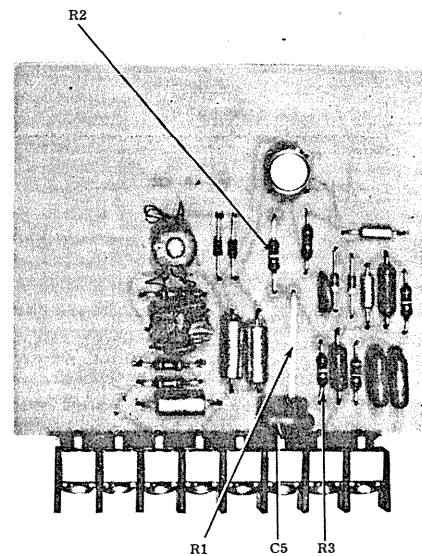

Figure 5. Component Location Upper Board Assembly
**RANGE MODIFICATION (See figure 5).**